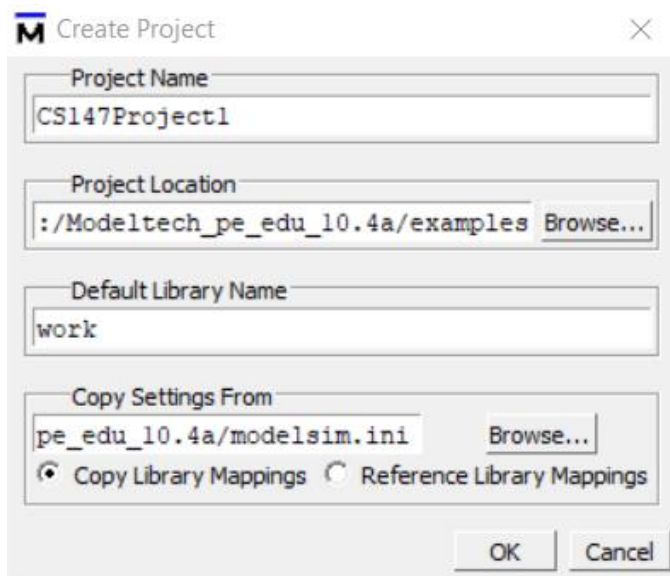

Figure 2.1 Create Project
- 2) Open the ModelSim and navigate the cursor to file at the top left corner and click on it. Put cursor on the new and click on the project button. Then it will pop up the window at the following figure 2.1